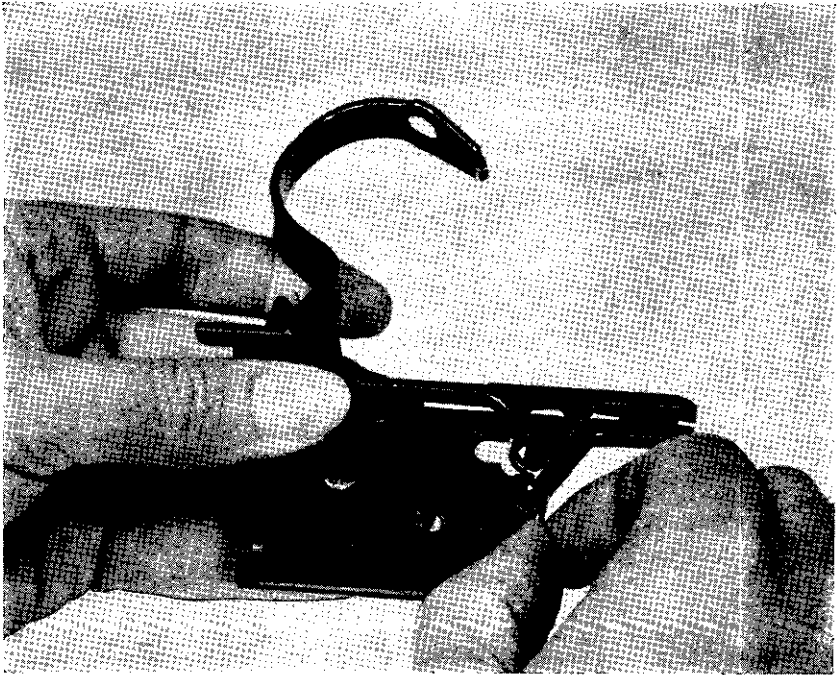

Figure 25. Replacing the safety spring.
b. Hold the trigger housing with your left hand, vertical face to the left, open face up. Place the loop of the safety spring on its stud in the trigger housing (fig. 25) and rotate it clockwise into position. (The short arm of the spring should be along the base of the trigger housing.)